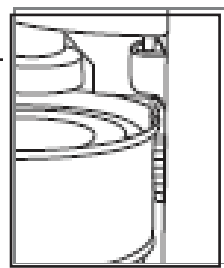

Fig. 2
3. Place the can so that the lower edge of the can lip rests on top of the drive wheel. Be certain that the cutting blade is on the inside of the can lip as shown in Figure 2.